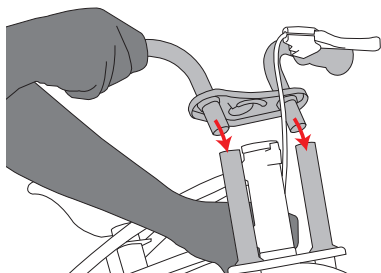

Figure 4
- Install the handlebar by inserting the two handlebar tubes into the two front fork and wheel tubes with the pointed side facing the rear. See Figure 4.